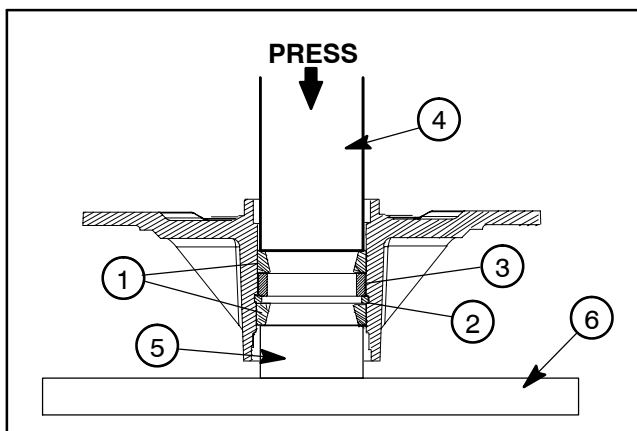

Figure 6
3. Using an arbor press, push the bearing cups into the top and bottom of the spindle housing. The top bearing cup must contact the spacer previously installed, and the bottom bearing cup must contact the snap ring. Make sure that the assembly is correct by supporting the first bearing cup and pressing the second against it (Fig. 6).